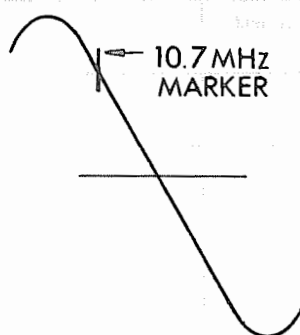

Fig. 4
2. If the ceramic filters except RED are used, 10.7MHz marker will not appear at the center of "S" curve (See fig. 4 or 5) In these cases, disregard 10.7MHz marker.